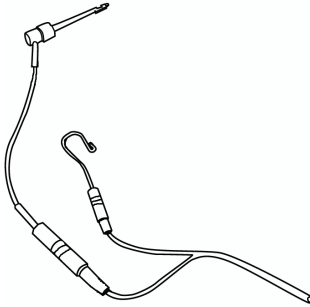

Fig. 3.1
3.1.2 Insert the file clip and lip hook respectively into the two sockets of the measuring wire. (Fig. 3.1)